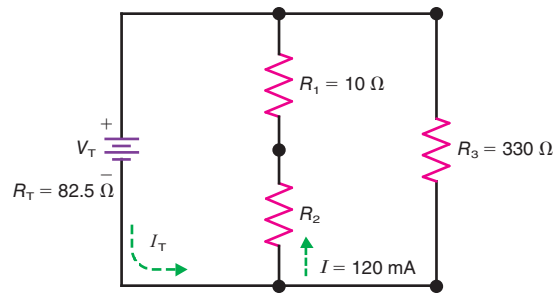

Figure 7-29
7.16 In Fig. 7-29, solve for R_2 , V_1 , V_2 , V_3 , I_3 , I_T , and V_T .